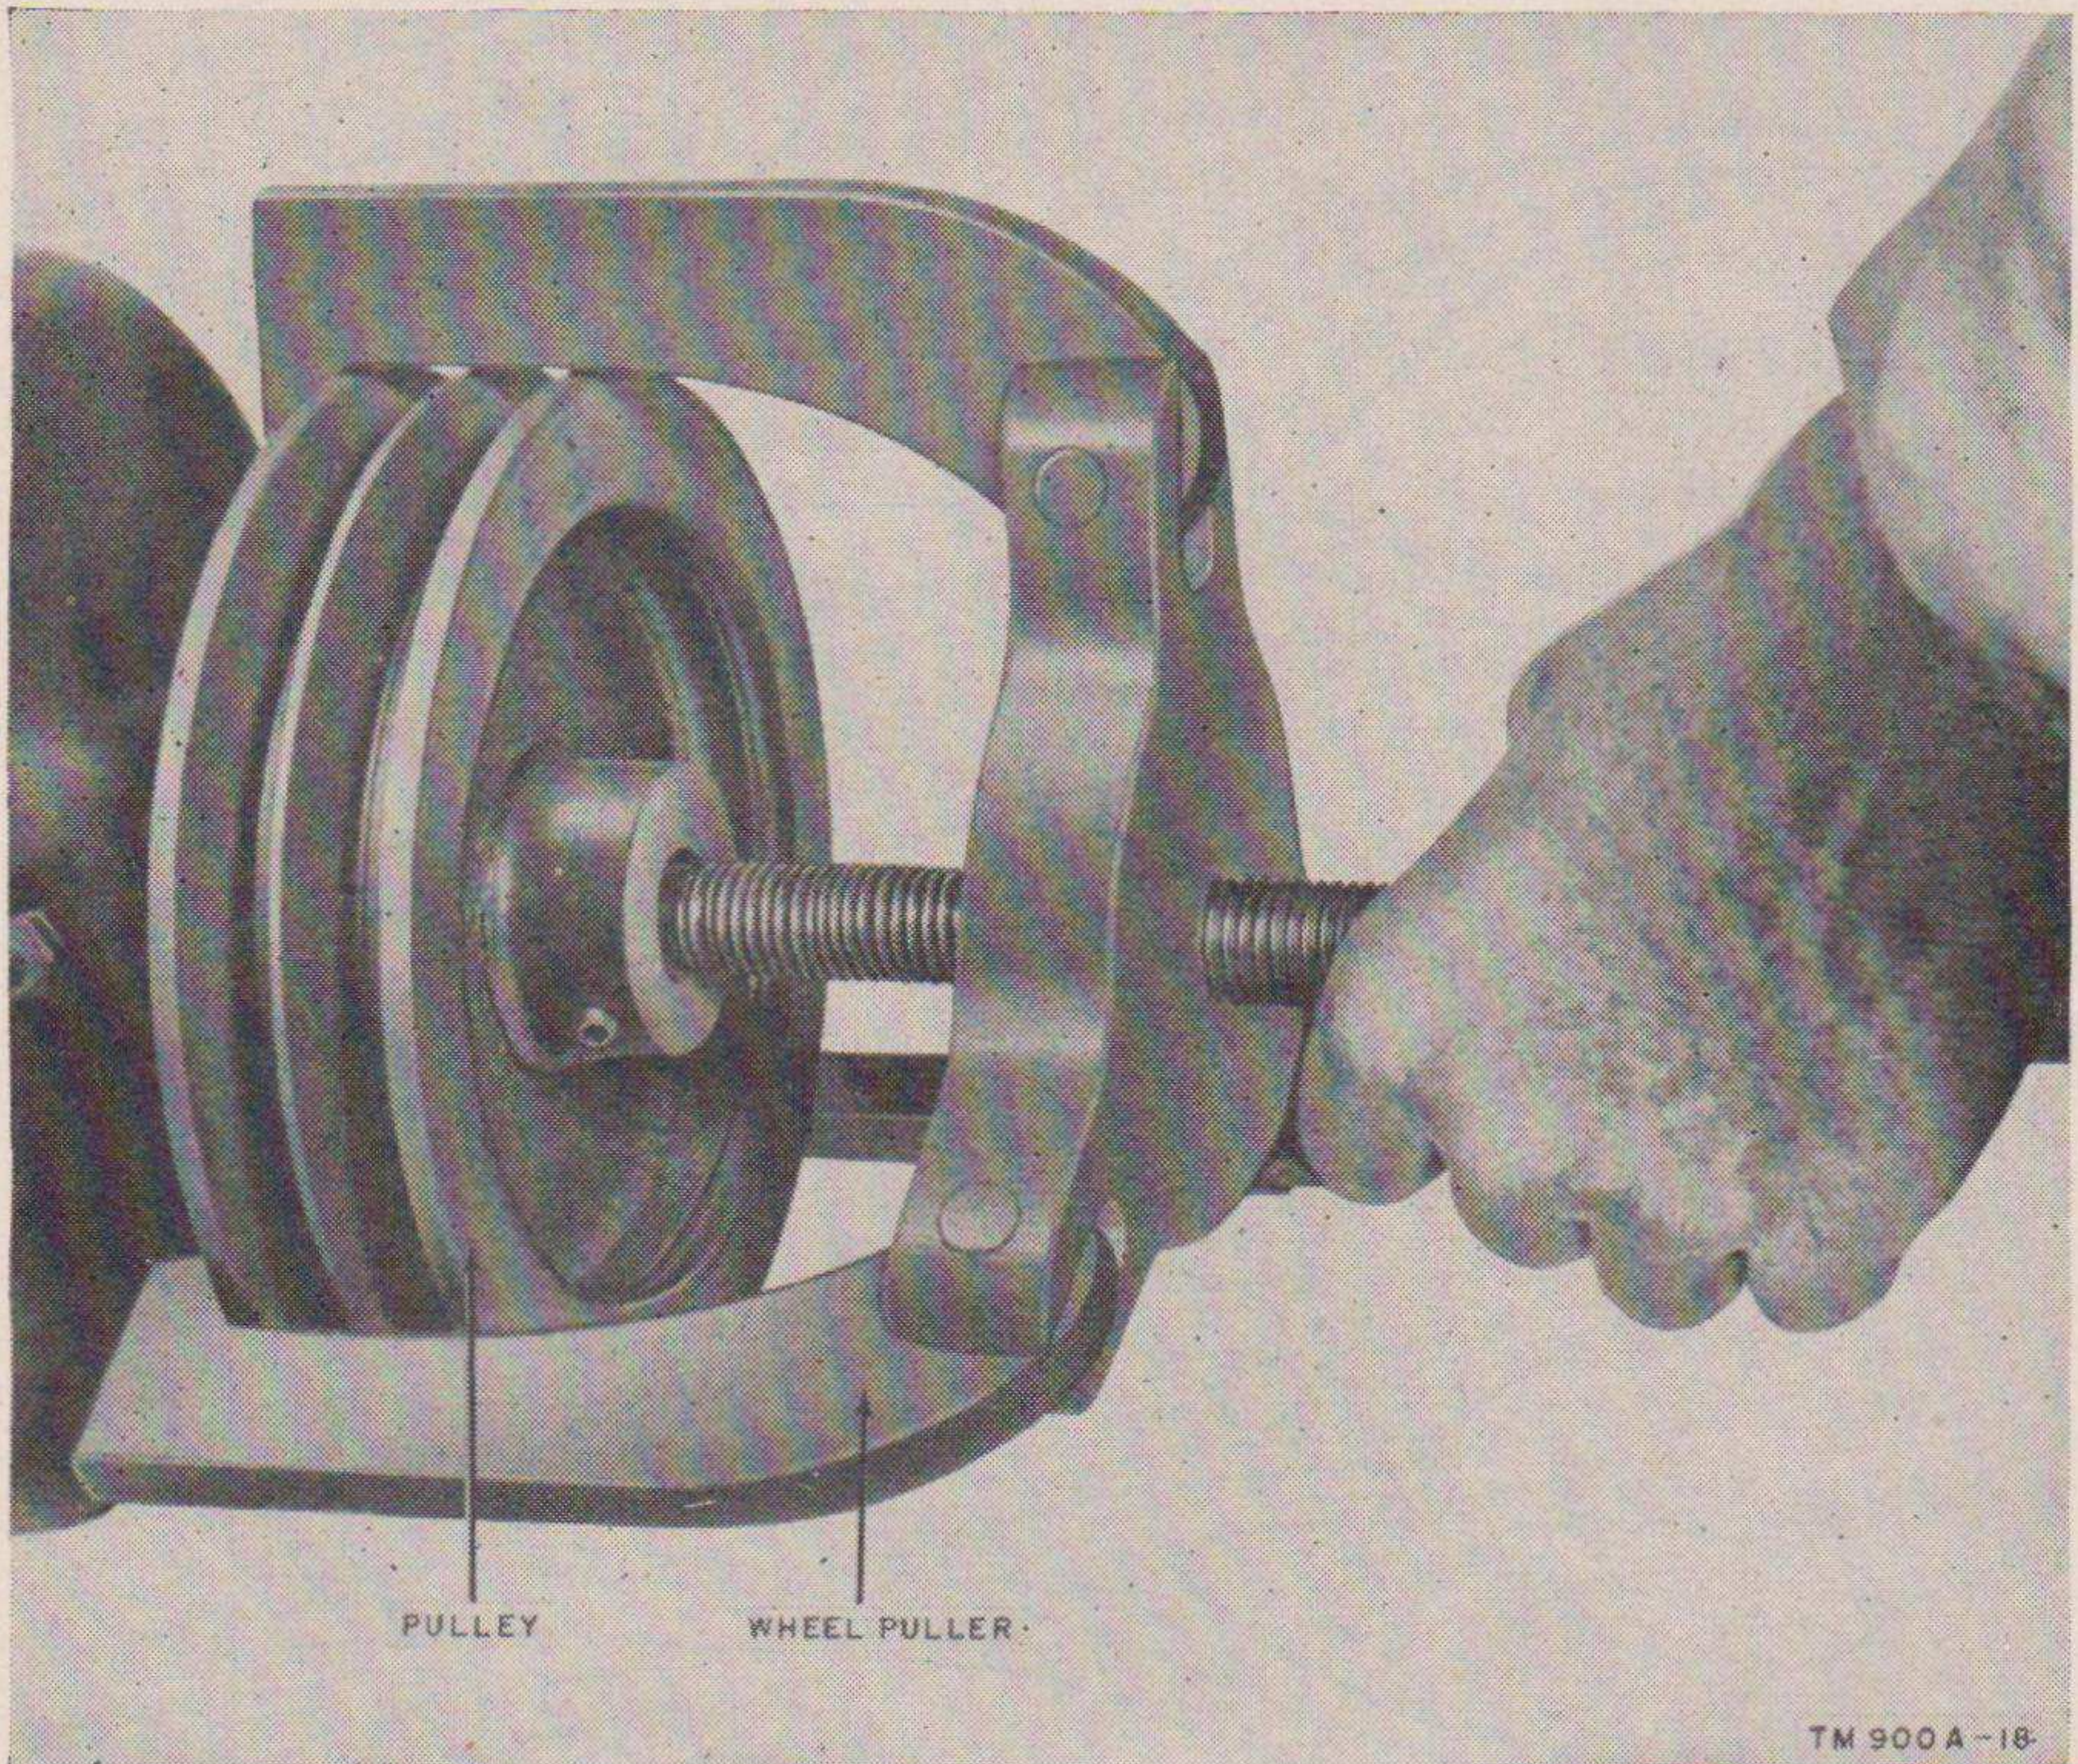

Figure 18. Removing generator pulley.
b. Pulley Removal (fig. 18). Secure a suitable puller and pull the drive pulley from the generator shaft.